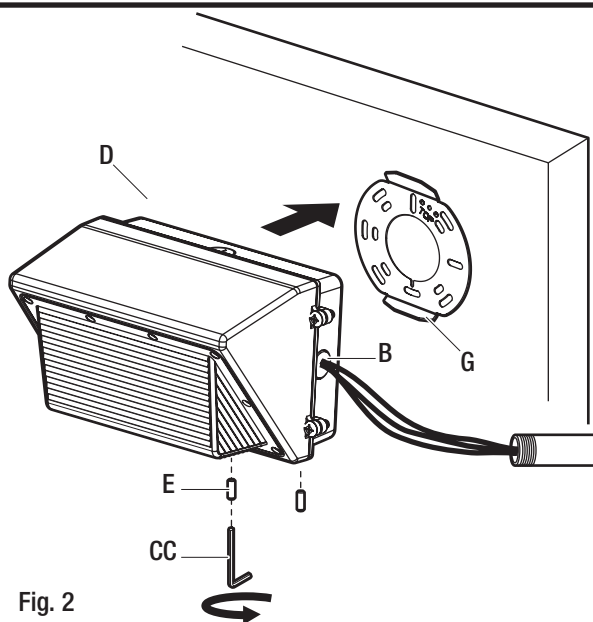

Fig. 2
- Remove the conduit entry plug (B) on the side of the mounting base (D).
- Thread the wires through the surface conduit entry on the side of the mounting base (D) and hang the fixture by attaching the mounting base (D) on the mounting plate (G).
- Tighten the two mounting plate bolts (E) removed earlier to attach the mounting base (D) on the mounting plate (G). (Fig. 2)
- The fixture will open sideways and stay connected on the hinge.(Fig. 2)
**NOTE:** The mounting plate screws (C) come pre-installed on the light fixture.